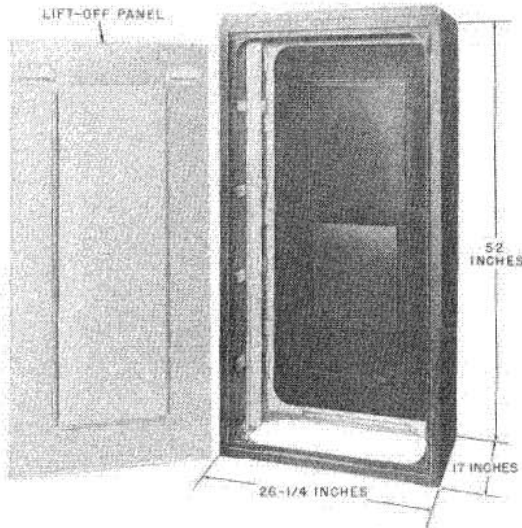

Fig. 17—26-Plate Apparatus Cabinet per ED-92185-70
4.08 The 26-plate apparatus cabinet per ED-92185-70\* (Fig. 17) is a metal cabinet with a fixed mounting frame having a hinged door in front and lift-off panel in back. It is drilled for floor mounting.